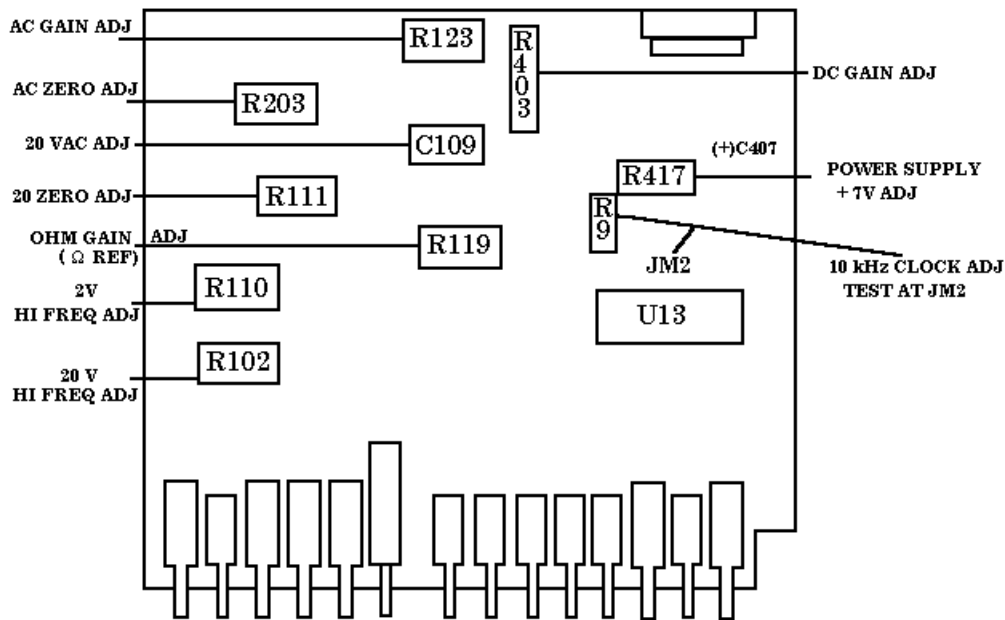

Figure 1. Adjustments locations - models 3435A and 3438A.
- (1) Connect calibrator output to TI **VW** and **COM** terminals.
- (2) Set calibrator output to 19.00 V dc. If TI does not indicate between 18.97 and 19.03 V dc, perform **b** below.
- (3) Repeat technique of (2) above, using settings and indications listed in table 3.
b. Adjustments. Adjust DC GAIN ADJ R403 (fig. 1) for an indication of 19.00 V dc on TI (R).
- (1) Adjust AC ZERO ADJ R203 (fig. 1) for a TI indication of 0.00 V ac (R).
- (2) Adjust AC GAIN ADJ R123 (fig. 1) for a TI indication of 19.00 V ac (R).
- (3) Adjust 20 V HI FREQ ADJ R102 (fig. 1) for a TI indication of 19.00 V ac (R).
- (4) Adjust 20 VAC ADJ C109 (fig. 1) for a TI indication of 19.00 V ac (R).
- (5) Adjust 2 V HI FREQ ADJ R110 (fig. 1) for a TI indication of 1.900 V ac (R).
(1) Adjust 20 ZERO ADJ R111 (fig. 1) for a TI indication of 0.00 kΩ.
(2) Set calibrator to 19 kΩ. Adjust OHM GAIN ADJ (Ω REF) R119 (fig. 1) for TI indication of actual calibrator resistance.
(1) Connect multimeter to positive side of capacitor (+) C407 (fig. 1) and ground. If digital multimeter does not indicate between 6.99 and 7.01 V dc, perform **b(1)** below.
(2) Set multimeter to measure frequency and connect frequency counter input to JM2 (fig. 1). If multimeter does not indicate frequency between 9980 and 10020 Hz, perform **b(2)** below.
(1) Adjust POWER SUPPLY + 7 V ADJ R417 (fig. 1) for 7.00 (R).
(2) Adjust 10 kHz CLOCK ADJ TEST AT JM2 R9 (fig. 1) for 9980 to 10020 Hz (R).